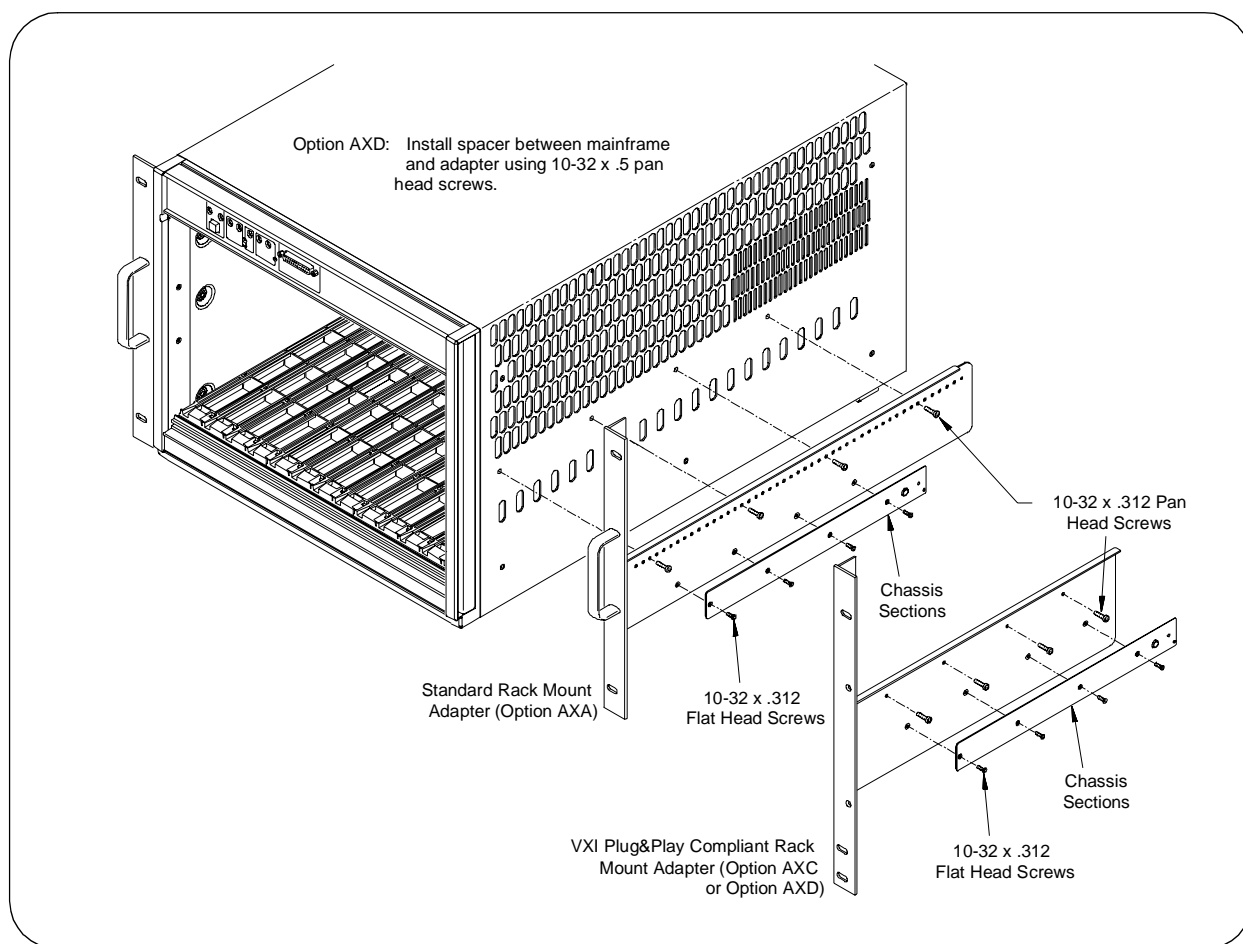

Figure 10 . Attaching the Rack Mount Adapters and Rack Slide Chassis Sections to the Mainframe.
- Attach the rack mount adapters to the mainframe using the eight 10-32 x 0.312 pan head screws provided. To mount the mainframe flush with the rack front, begin with the 3rd hole from the front of the adapter (Figure 10).
8. Attach the chassis sections to the rack mount adapters using four 10-32 x 0.312 flat head screws per side (Figure 10). Note that in some recess positions, the front screw will not be used.